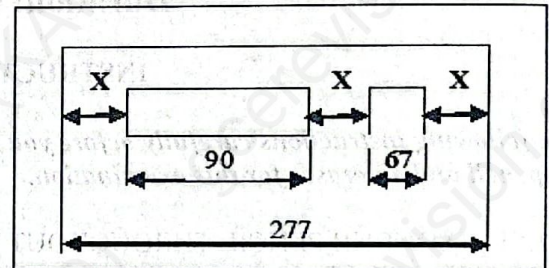

Figure 4
7. Calculate the distance X of the A4H paper in figure 4 below